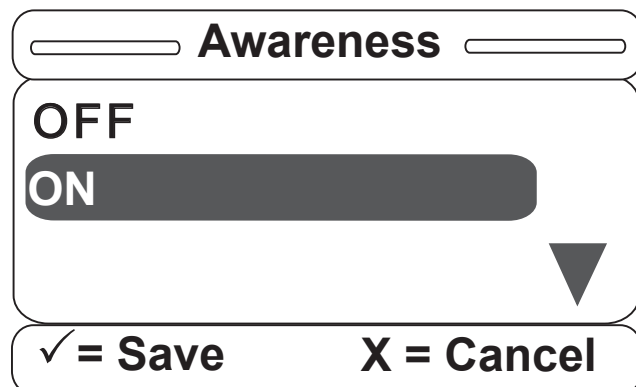

Figure S-15
15. Once the Awareness item is selected, the screen in Figure S-15 will be displayed. Set the Awareness option to ON then press “Enter” on the footboard panel to make your selection. If needed, press “Exit” to cancel the operation.